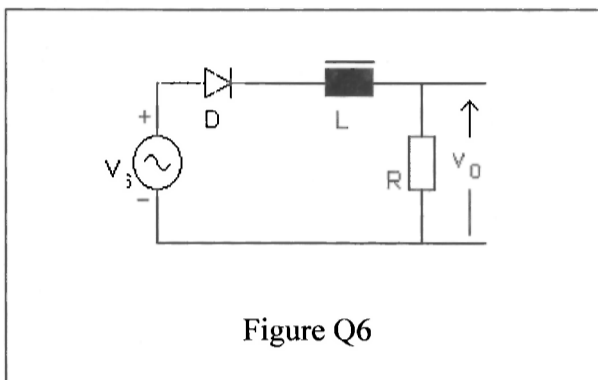

Figure Q6
**Q6** Figure Q6 shows a circuit with a single diode and an R-L load.